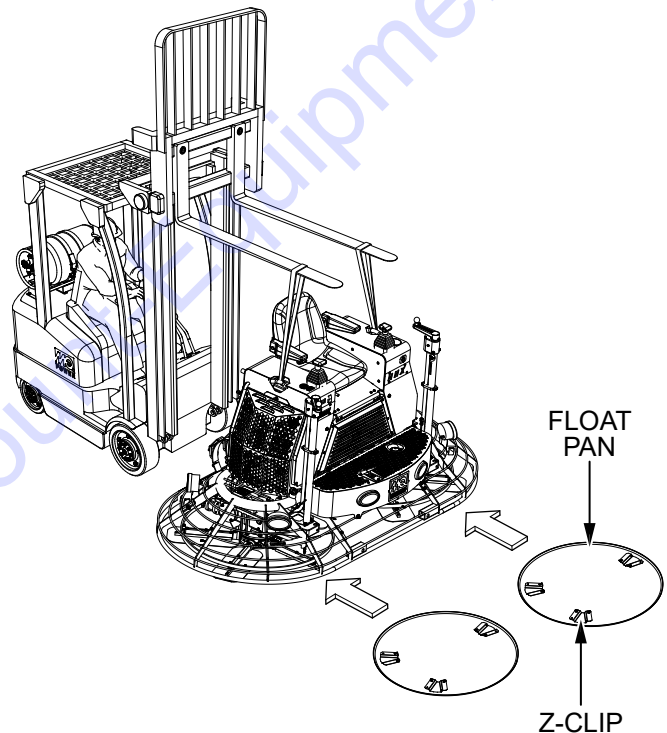

Figure 53. Float Pan Positioning
- Lift the trowel just enough to slide float pans with Z-clips under the blades (Figure 53). Slowly lower the trowel onto the pans with the blades adjacent to the Z-clips.